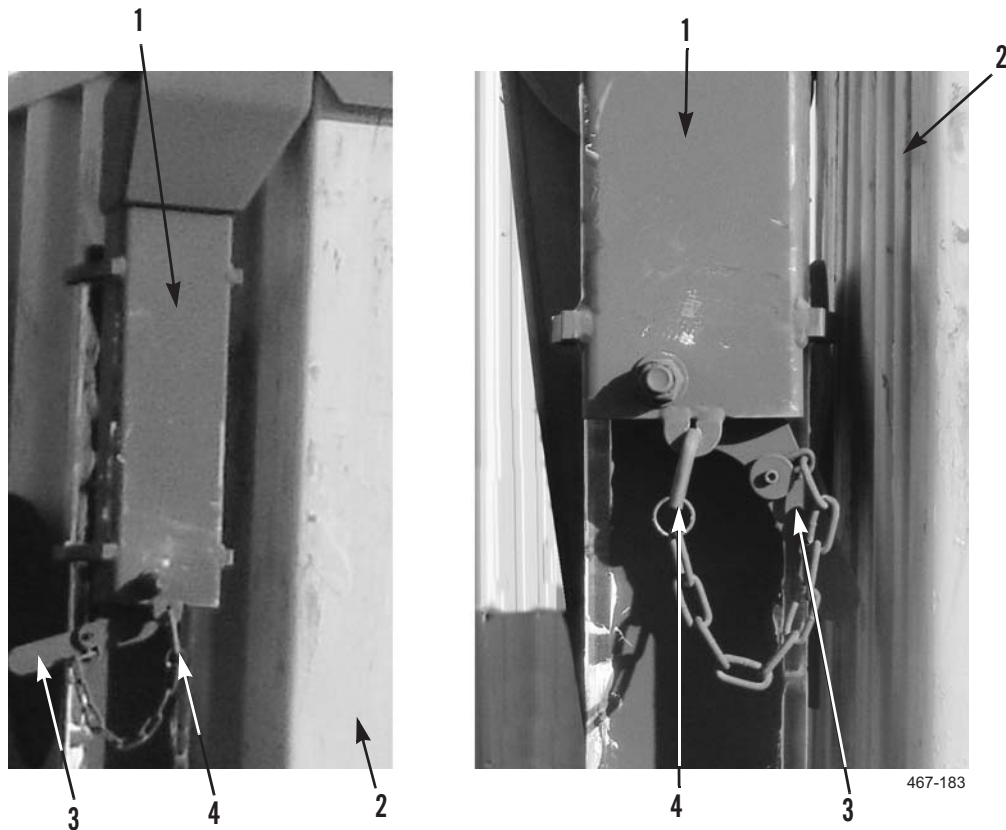

Figure 7. Lock Both Slide Housing Locking Handles.
1. Remove locking pin (Figure 7, Item 4) from slide housing (Figure 7, Item 1).
2. Push locking handle (Figure 7, Item 3) toward container (Figure 7, Item 2) to secure slide lock in upper corner casting.
3. Install locking pin (Figure 7, Item 4) in slide housing (Figure 7, Item 1).